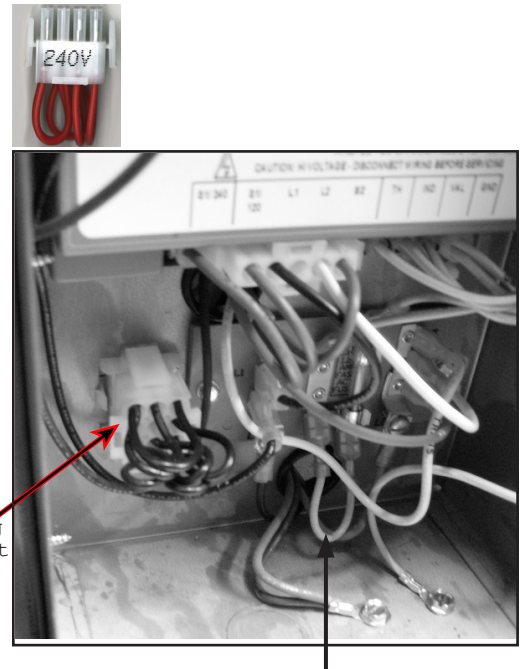

Figure 27.
- Remove the factory installed jumper from the Fireman's Switch terminals. **(See Figure 27 on page 21).**